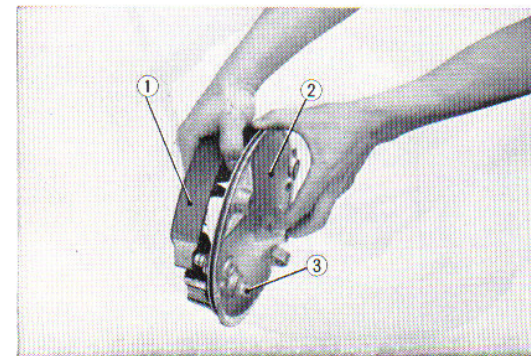

Fig. 4.77 Removing the front brake shoe
7. Remove the front brake arm and pull out the front brake cam; the brake shoes can be removed from the panel by spreading the shoes apart by hand. (Fig. 4.77)